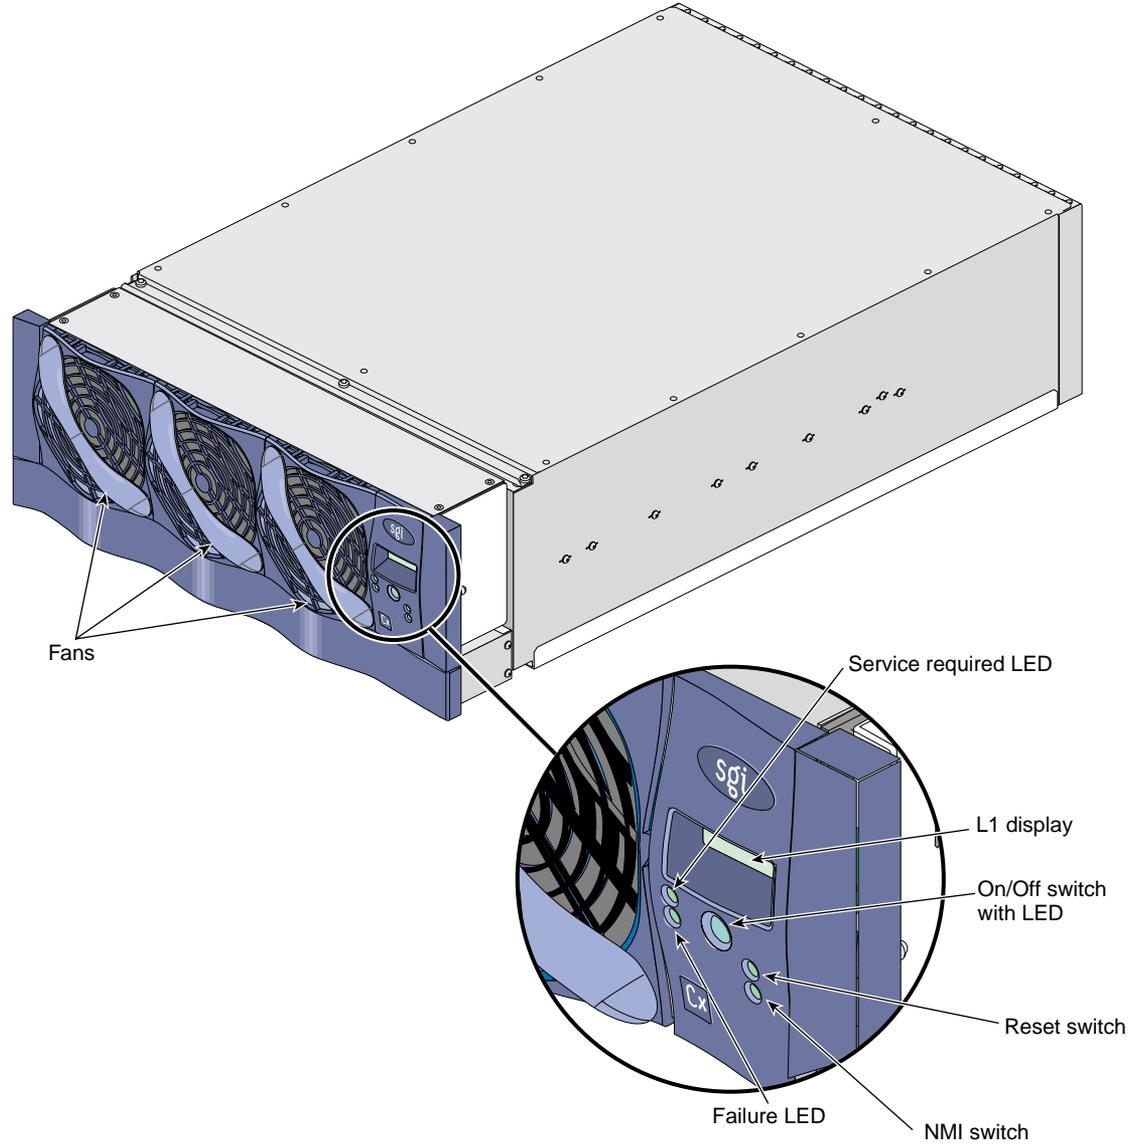

Figure 3-3 Front View of Cx-brick
- L1 controller that monitors and manages your Cx-brick, and generates status and error messages that appear on the liquid crystal display (LCD) located on the Cx-brick front panel (see Figure 3-3 on page 59).
The Cx-brick is a 4U-high brick that contains the following front-panel items (see Figure 3-3):